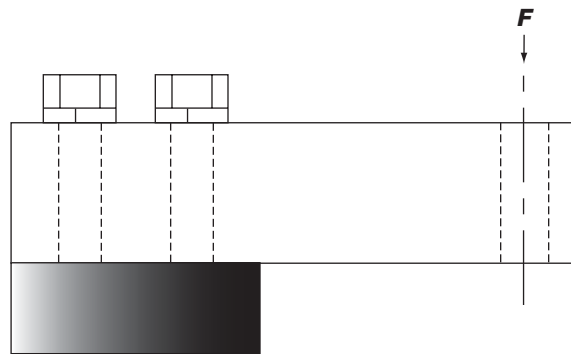

Figure 4-1. Ideal Loading
Figure 4-1 shows a typical mounting arrangement for a single-ended beam. The fixed end is fastened to a rigid foundation, while the free end is cantilevered to allow downward deflection as load (F) is applied. Under ideal conditions, the mounting surface would be flat, horizontal and perfectly rigid. The load F would be introduced vertically with minimal extraneous forces applied, and the load cell would be totally insensitive to all forces other than precisely vertical ones.